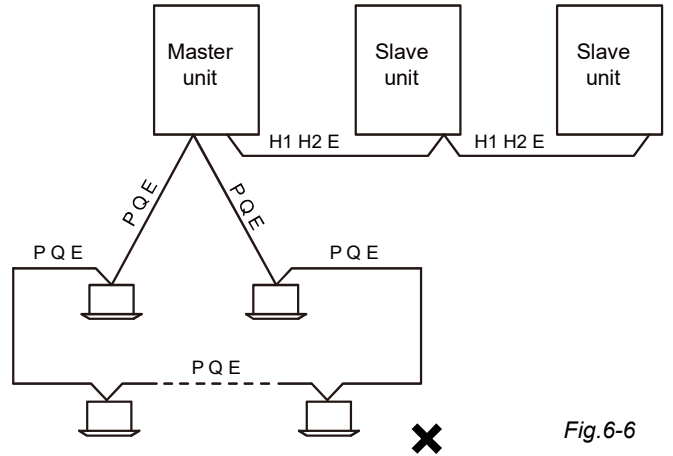

Fig. 6-6
- The P Q E communication wires should be connected one unit after another in a daisy chain from the outdoor unit to the final indoor unit as shown in Figure 6-6. At the final indoor unit, a 120 Ω resistor should be connected between the P and Q terminals. After the final indoor unit, the communication wiring should NOT be continued back to the outdoor unit – that is, do not attempt to form a closed loop.
- The H1 H2 E communication wires should be connected one unit after another in a daisy chain from the master outdoor unit to the final slave outdoor unit as shown in Figure 6-6.